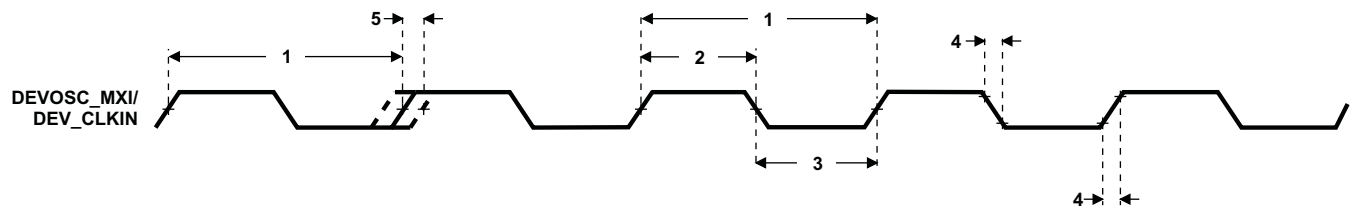

Figure 7-10. DEV_MXI/DEV_CLKIN Timing
Table 7-14. Timing Requirements for DEVOSC_MXI/DEV_CLKIN^{(1) (2) (3)}(see Figure 7-10)